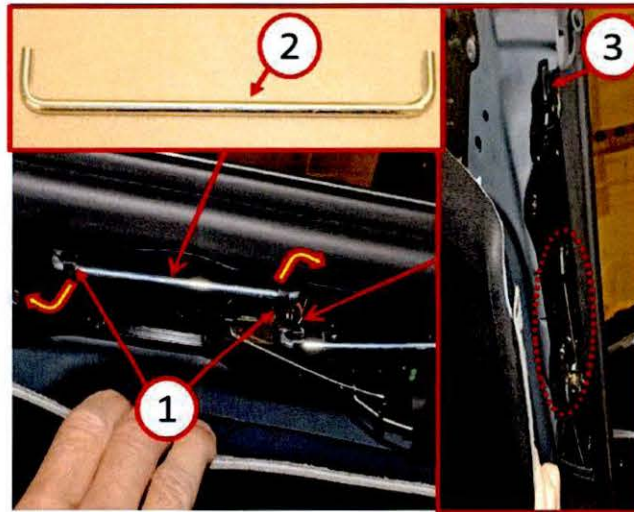

Fig. 2 Down Capture Receiver Rod Replacement
3. Replace the damaged or bent receiver rod(s) by swinging the retaining clips open and pulling the rod out of the clips (**Fig. 2**).